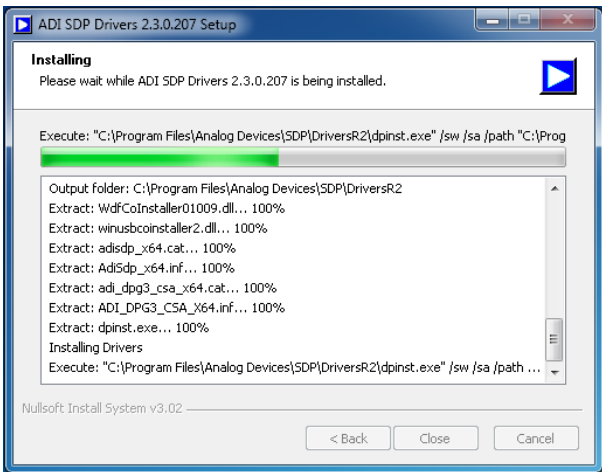

Figure 14. **Installing**
- The installation begins, and a progress bar shown in Figure 14 is displayed.